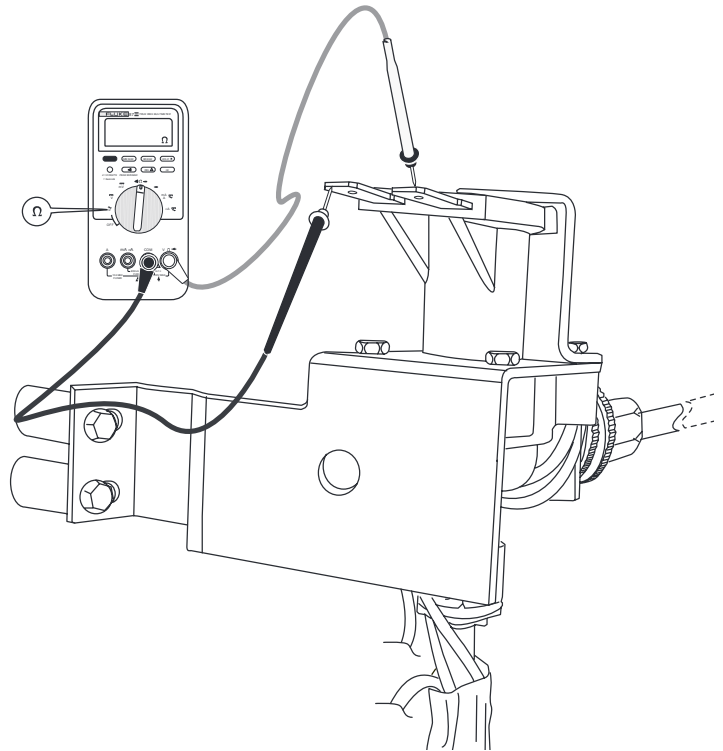
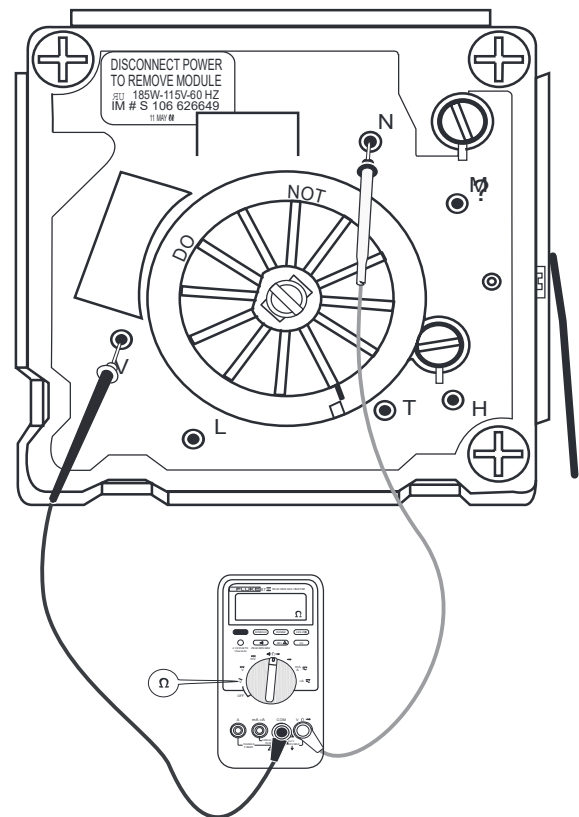

Figure 10-13. —Measuring solenoid coil resistance.
Figure 10-14. —Measuring solenoid coil resistance through wire harness
The solenoid coil resistance should measure between 295 and 360 ohms. It can be checked at the water valve solenoid coil as illustrated in Figure 10-13 or through the ice maker module test points V and N as illustrated in Figure 10-14.
- Set the multimeter to ohmmeter function, then insert one probe into point L and the other into point H as Figure 10-14 illustrates.